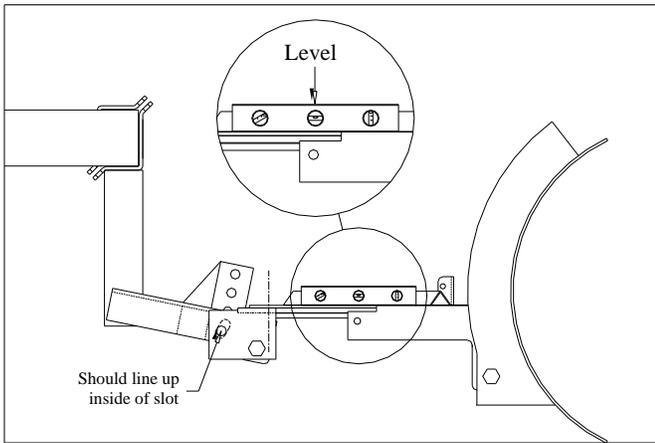

Fig. 7
7. For the blade pivot to work correctly the pivot assembly needs to be level when the blade is in contact with the ground. Level the pivot plate with a small level. With the assembly level, the hole location in pivot assembly should line up directly over slot in carrier frame. **FIG. 7**